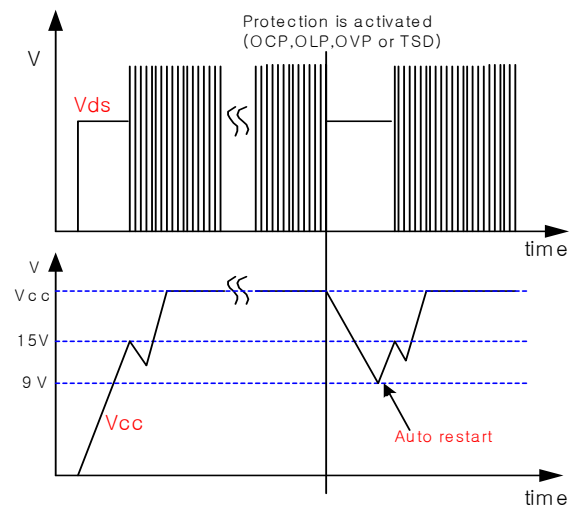

Figure 3. Auto restart operation after protection
3. Protection function : FS8S0965RCB has 4 self protective functions such as abnormal over current protection (AOCP), over load protection (OLP), over voltage protection (OVP) and thermal shutdown (TSD). Because these protection circuits are fully integrated into the IC without external components, the reliability can be improved without cost increase. In the event of these fault conditions, the FPS enters into auto-restart operation. Once the fault condition occurs, switching operation is terminated and MOSFET remains off, which forces V_{cc} to be reduced. When V_{cc} reaches 9V, the protection is reset and the supply current reduces to 80 uA. Then, V_{cc} begin to increase with the current provided through the start-up resistor. When V_{cc} reaches 15V, the FPS resumes its normal operation if the fault condition is removed. In this manner, the auto-restart alternately enables and disables the switching of the power MOSFET until the fault condition is eliminated as illustrated in figure 3.